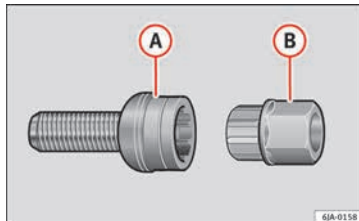

Fig. 61 Anti-theft wheel bolt with adapter.
- Insert the adapter (B) »» Fig. 61 with its toothed side as far as it will go on the interior tothing of the anti-theft wheel bolt (A) so that only the outer hexagonal is protruding.
- Fit the box spanner as far as it will go over adapter (B).